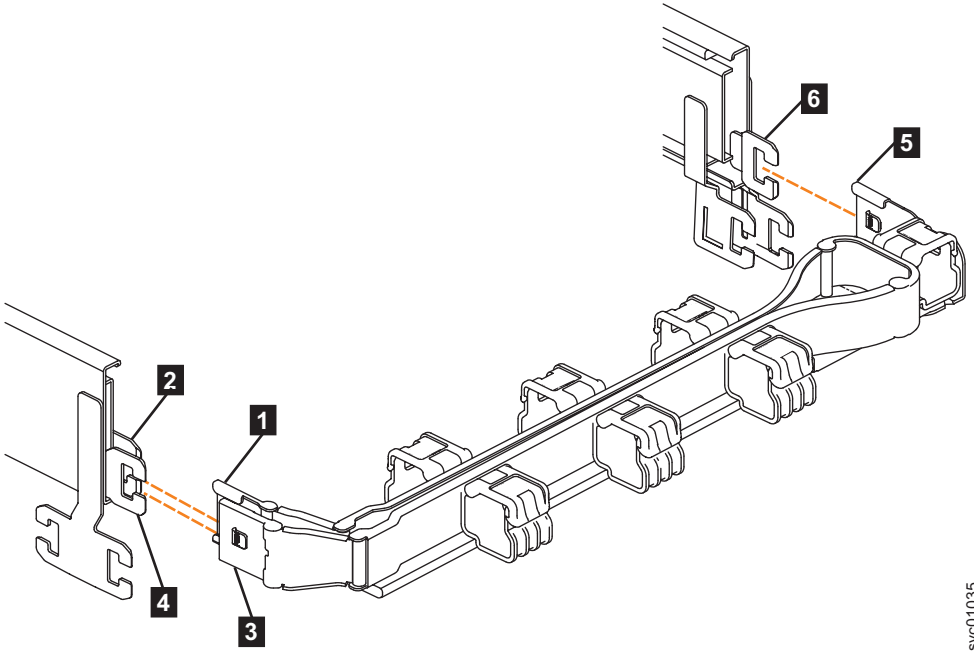
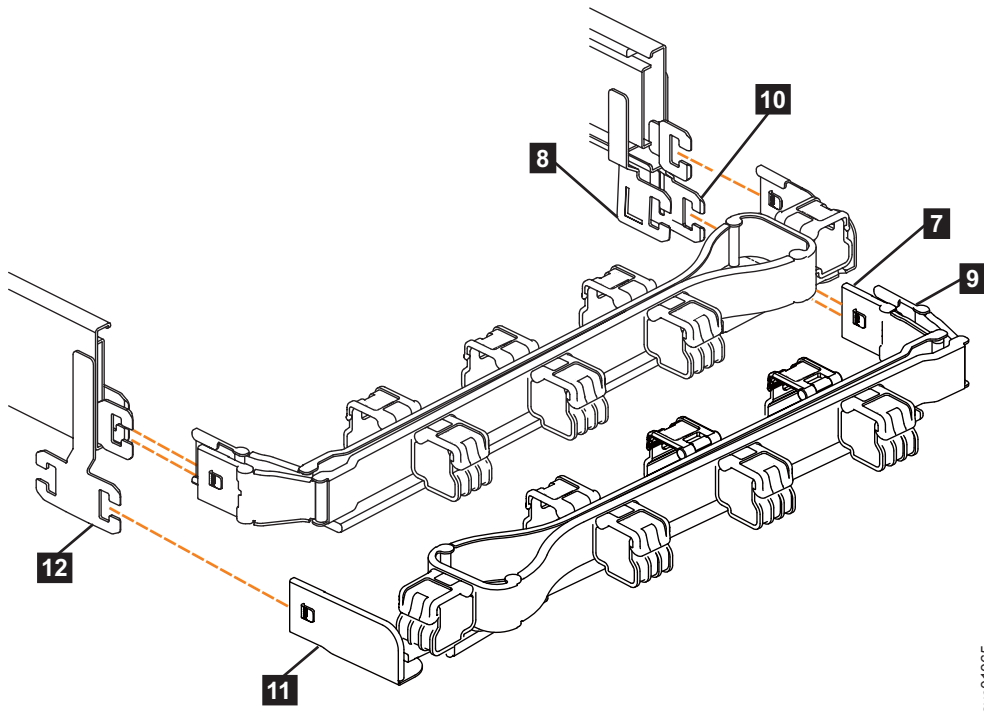

Figure 45. Connectors for the upper cable management arm
Figure 46. Components of the lower CMA assembly
The connectors of the CMA are installed on the rail hooks at the end of the support rails. Figure 45 on page 55 shows the connectors on the upper CMA assembly.
1. Press the latch on the connector base on the upper CMA assembly (**5** in Figure 45).
2. Pull the connector to remove it from the connector base on the right support rail (**6** in Figure 45).
3. Press the latch on the outer connector of the upper CMA assembly (**3** in Figure 45).
4. Remove the outer connector from the inner member of the left support rail (**4** in Figure 45).
5. Remove the inner connector of the upper CMA assembly (**1**) from the inner member of the left support rail (**2**), as shown in Figure 45.
Note: The procedure for removing the lower CMA assembly is the same as the procedure to remove the upper CMA assembly. However, the connector locations are reversed. For example, the connector base of the upper CMA (**5** in Figure 45) connects to the right rail. The connector base of the lower CMA (**11** in Figure 46 on page 56) attaches to the left rail.
6. Remove the connector base on the lower CMA assembly (**11**) from the connector on the left support rail (**12**), as Figure 46.
7. Remove the inner connector of the lower CMA assembly (**9**) from the outer member of the right support rail (**10**), as shown in Figure 46.
8. Remove the outer connector of the lower CMA assembly (**7**) from the inner member of the right support rail (**8**), as shown in Figure 46.